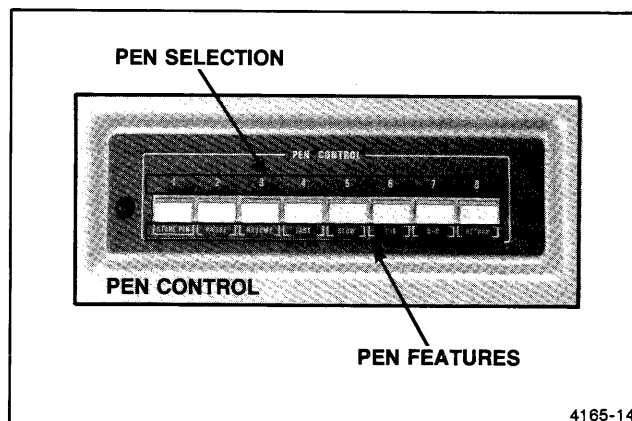

Figure 2-13. Pen Control Switches.
This group of eight switches (see Figure 2-13) is used for manual selection of plotting pens, and for control of other Option 31 pen features. Whether a pen is selected or whether an Option 31 feature is selected depends on (1) the length of time the operator activates the key (i.e., momentary activation, where the bell does not ring, or extended activation, where the bell rings), and (2) the position of the LOAD switch.